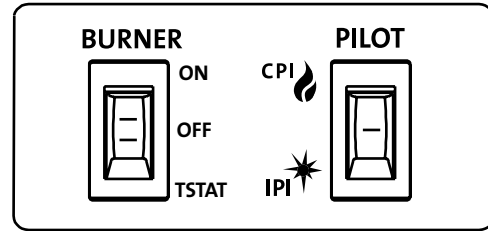

Figure 44. Burner controls.
- The TSTAT position permits automatic control through use of an optional wall thermostat or remote control device. Fig. 44.